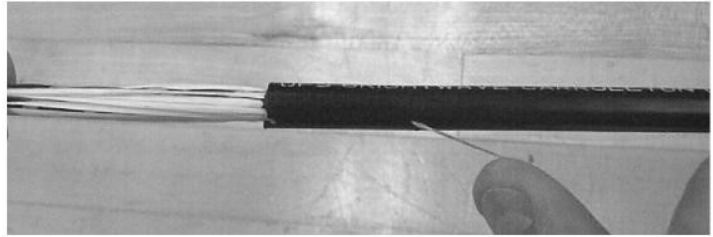

Figure 6 - Pull the ripcord to the next ring cut
4.7 Locate and pull the ripcord to the next ring cut (Figure 6). Sometimes a small starter slit is needed to start the ripcord. If desired, wrap the ripcord around a pair of pliers to grip the ripcord.